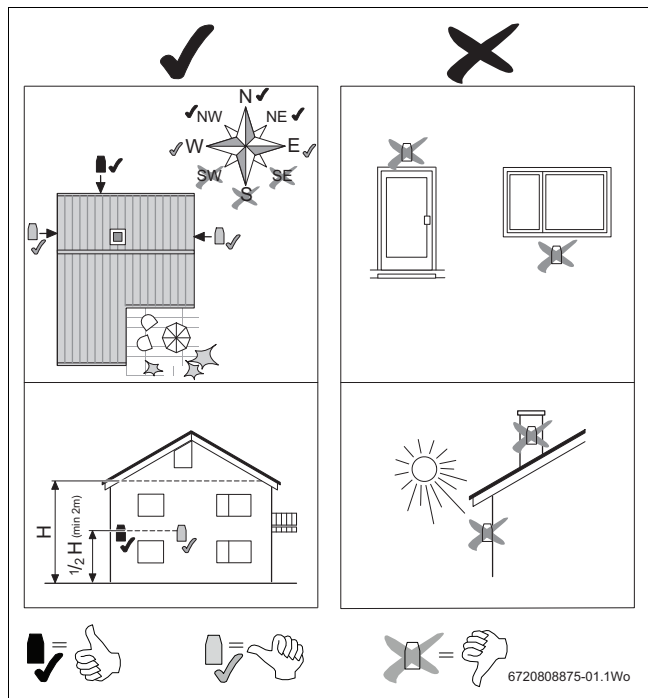
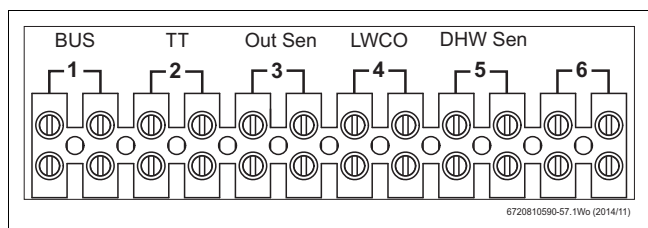

Fig. 60 Outdoor reset sensor optimum positioning indicated by black tick
Fig. 61 Connect Outdoor sensor to "Out Sen" number 3
- ▶ Ensure Outdoor sensor is installed according to Fig. 60 and connected as indicated in Fig. 61 if no outdoor sensor is detected/fitted the error code CC will be shown.